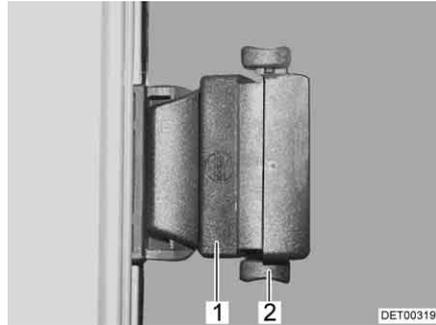

Fig. 98 Sliding window with pressure lock
- Release the lock (Fig. 98,2).
- Press handle (Fig. 98,1) and push it forward or backward at the same time.